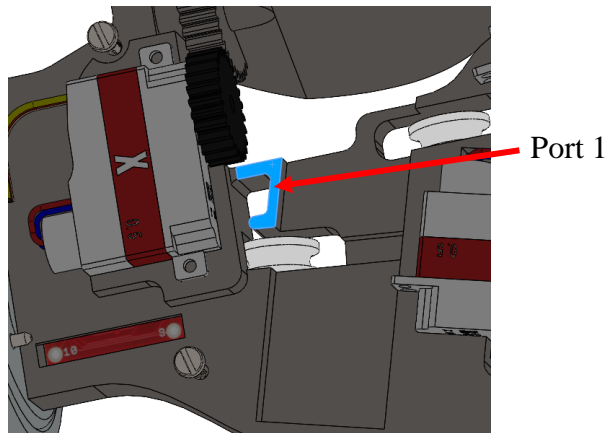

Figure 29: Port 1 – Wire routing
1. Wires for servos 1, 4 and 5 go through port 1 (**Figure 29**) of the palm frame, from the dorsal side through to the palmar side. **Servo 2 will need to be popped out of its place momentarily while wires are passed through.**
2. Wires for the Bluetooth module will go through port 1 (**Figure 29**) of the palm frame, from the palmar side to the dorsal side where the Bluetooth module is located. **Servo 2 will (again) need to be popped out of its place momentarily while wires are passed through.**